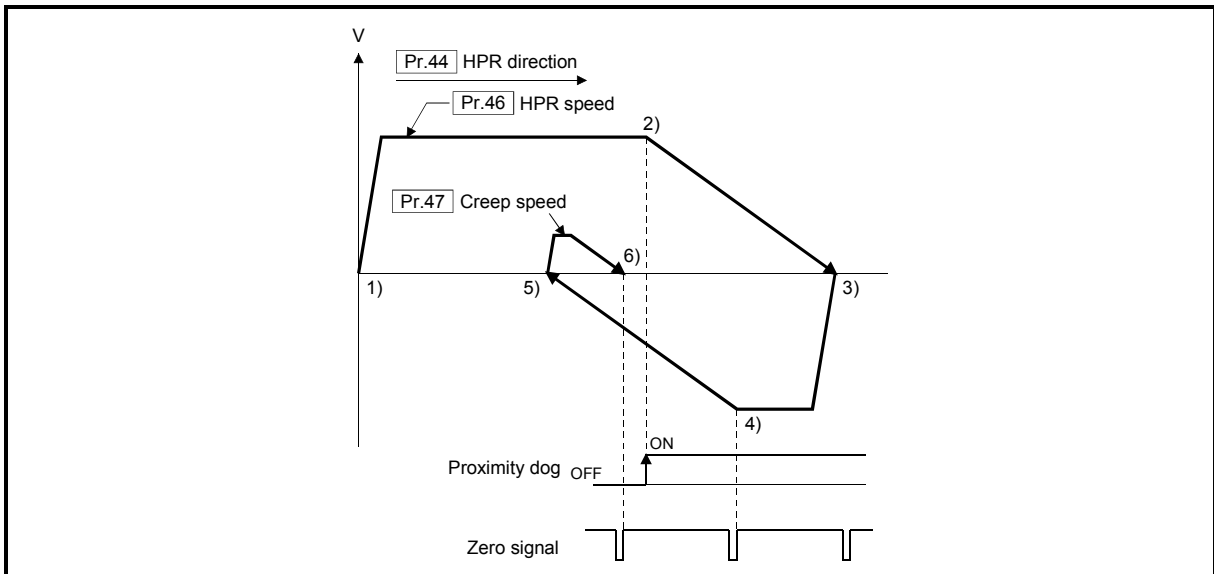

Fig. 8.12 Operation when the zero signal is detected again during deceleration with detection of zero signal
- (3) When the stop signal stops the machine HPR, carry out the machine HPR again. When restart command is turned ON after the stop signal stops the HPR, the error "HPR restart not possible" (error code: 209) will occur.
- (4) The HPR retry will not be performed regardless of setting set in "[Pr.48] HPR retry" in the scale origin signal detection method. When a hardware limit switch is detected during machine HPR, the error "Hardware stroke limit (+)" (error code: 104) or "Hardware stroke limit (-)" (error code: 105) will occur.
- (5) Position the proximity dog forward to overlaps with the hardware limit switch in direction of HPR. When the proximity dog is in the opposite direction against of HPR from the machine HPR start position, the error "Hardware stroke limit (+)" (error code: 104) or "Hardware stroke limit (-)" (error code: 105) will occur.
- (6) When the zero signal is detected again during deceleration ( 4) of Fig. 8.12) with detection of zero signal, the operation stops at the zero signal detected lastly to complete the HPR.